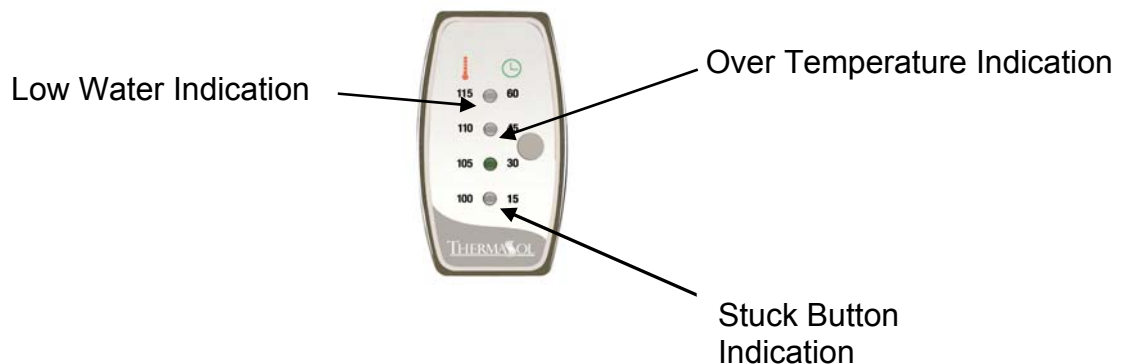

Figure 7
**5. Diagnostic Feature.** The TT control has a unique diagnostic feature. If there is a malfunction within the unit, it will alert you. The red 115° LED will flash when the low water sensor is activated, the red 110° LED will flash if the shower area exceeds 135°F, and the red 100° LED will flash if the control button becomes stuck. If any of these diagnostics happen the unit will shut down and lock out all user interfaces. To reset the unit, power will need to be reset at the breaker. Contact a Steam Services technician at **(800) 776-0711** for further trouble shooting steps. (Figure 7)